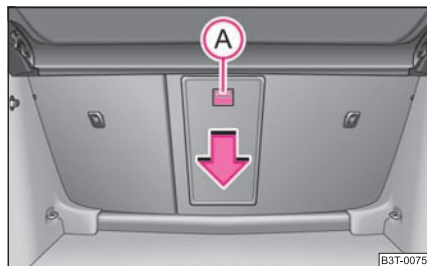

Fig. 105 Luggage compartment: Unlock button
- Push the unlock button (A) downwards ⇒ page 92, fig. 105 and fold the lid (with armrest) to the front.
- Fold the lid and the armrest up to the stop in upward direction - the lid must click into place audibly. You can recognize this on the fact that the red field above the unlocking button (A) of the luggage compartment is not visible ⇒ page 92, fig. 105.